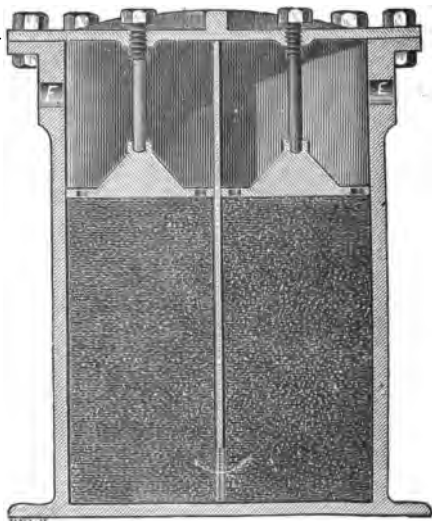

FIG. 97.—WAINWRIGHT FILTER.
A. As in Figs. 97 and 98. The water enters at E, and passes downward